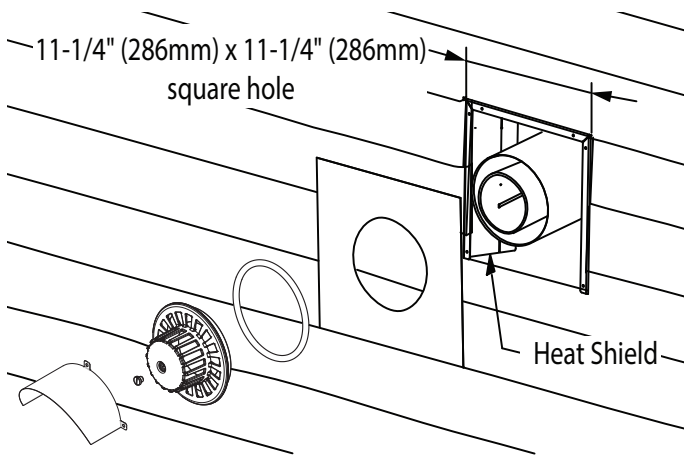

Figure 27
- The hole at the outside of the wall must be a square of 11-1/4" (286 mm) x 11-1/4" (286 mm) (see figure 27).
- Slide the heat shield (K) into the 11-1/4" (286 mm) x 11-1/4" (286 mm) square hole. Secure the heat shield (K) to the wall bracket using the appropriate hardware.
- From the outside of the wall, screw the rod (D) slightly onto support located inside the appliance flue outlet.
- Wrap the vent-air intake pipe (C) with the provided insulation (i) (foil side out) and place the provided strip of tape (H) down the seam to secure it.
- Slide the smaller vent pipe (B) (from outside your house) through the hole in the wall and attach to the mounted heater inside your house. Be sure the vent pipe is snug and engaged to the heater. Then slide the larger Vent-Air Intake Pipe, with the insulation wrapped and taped to the outside of the pipe, through the same hole and over the smaller Vent Pipe (B) and attach to the heater.